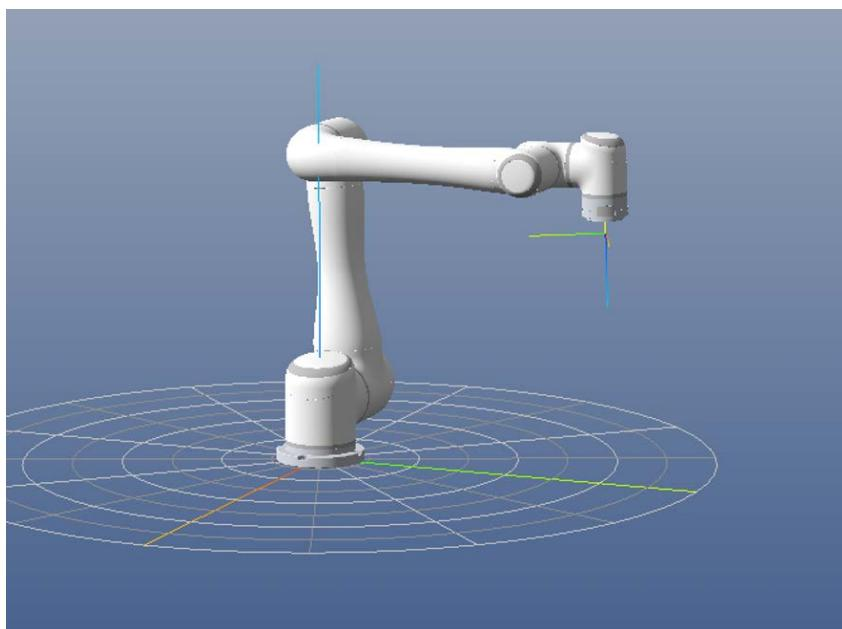

Figure 6-46 : Recommended initial pose
- Remove the payload and move the robot to a non-singular orientation (initial pose as recommended). We recommend that the angle of the first axis is set as 80° , as shown in **Figure 6-46**.